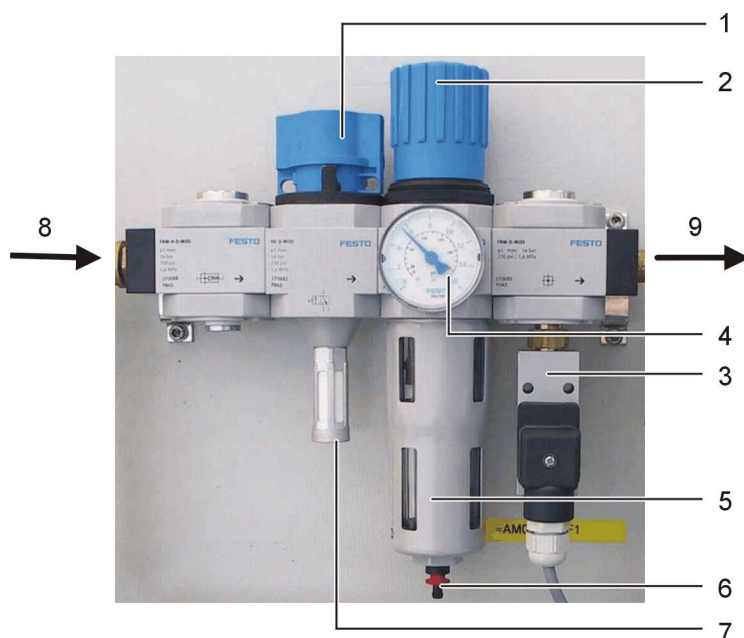

Fig. 7- 16 Compressed air maintenance unit
- Check the pressure of the compressed air supply at the maintenance unit. For system operation, a pressure of 6 - 7 bar is required at the pressure gauge (Item 4 in Fig. 7- 16). If the pressure deviates from this, it must be adjusted at the control valve (2).
- Check the level of condensation in the water separator (5). If it is too high, press the drain button (6).